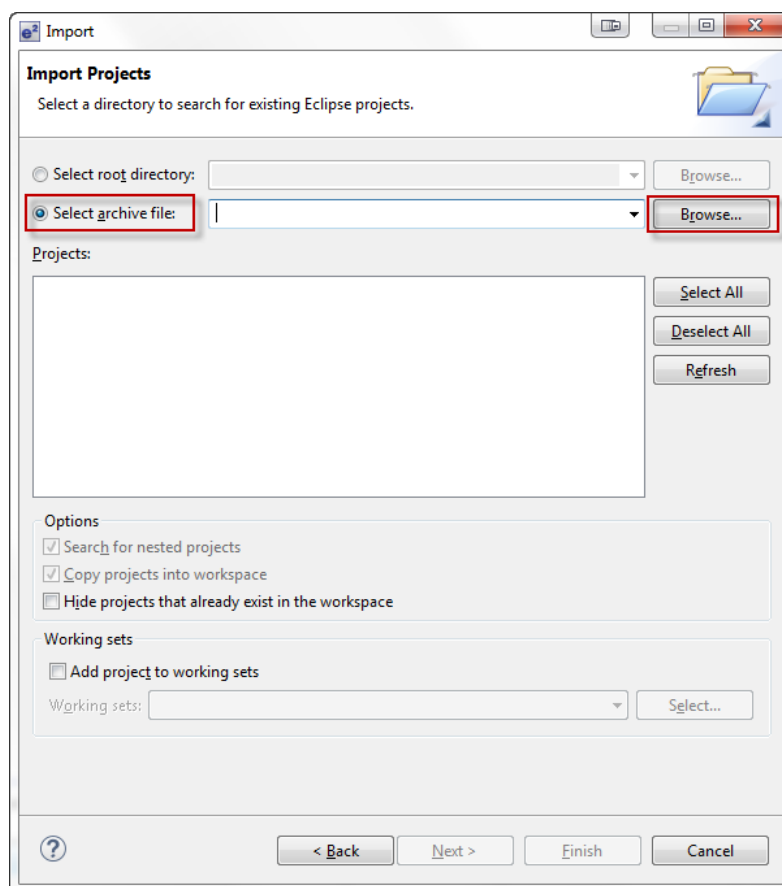

Figure 2.7 Import Existing Project dialog 1
7. Click **Select archive file** (Figure 2.7).